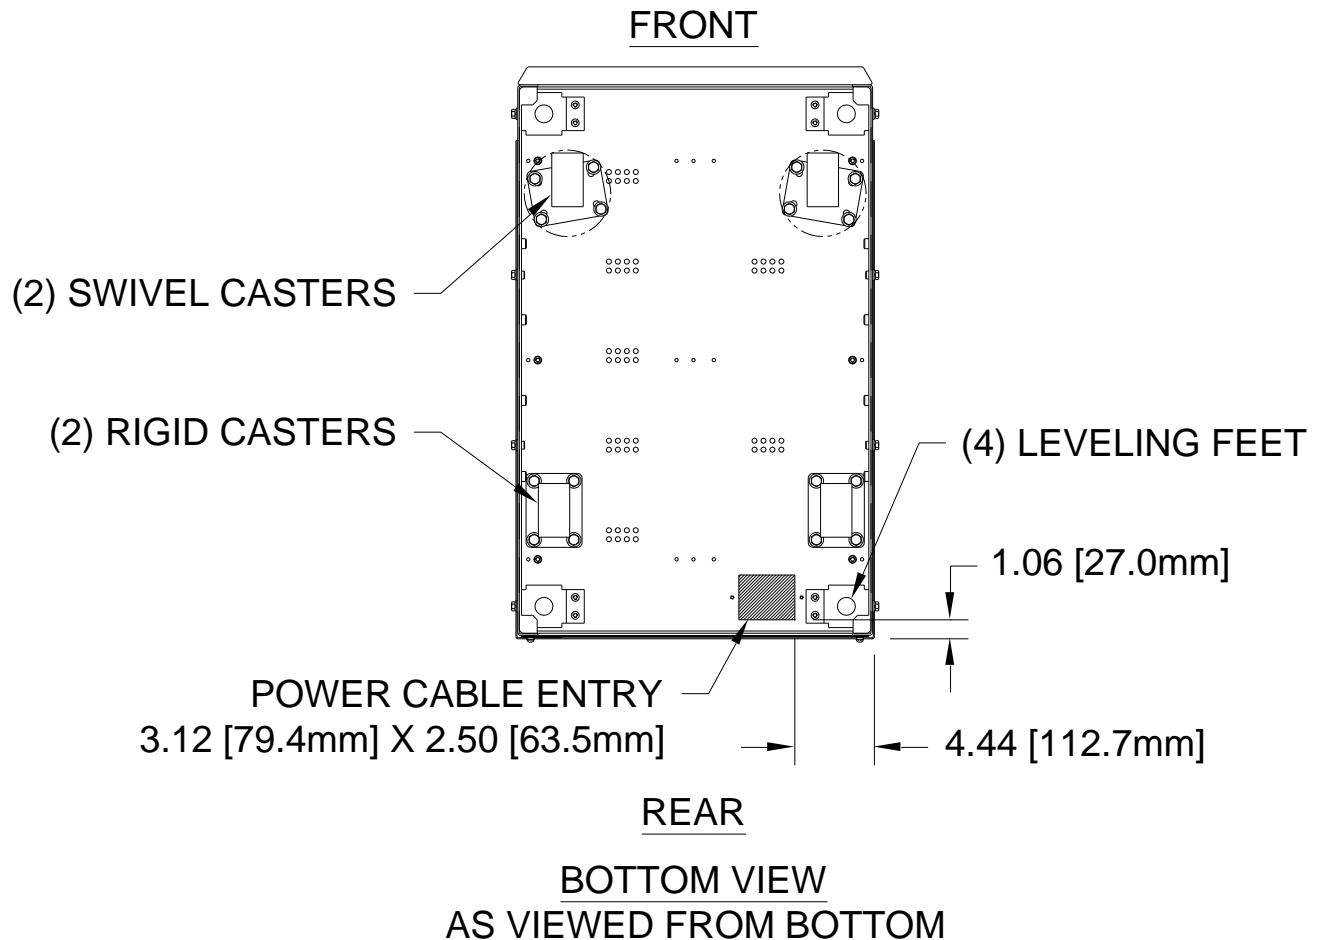

Figure 7 - UPS Bottom View
6. Conduit landing plates are located at the rear bottom of the base to accommodate bottom wire entry to the cabinet (see Figure 7).